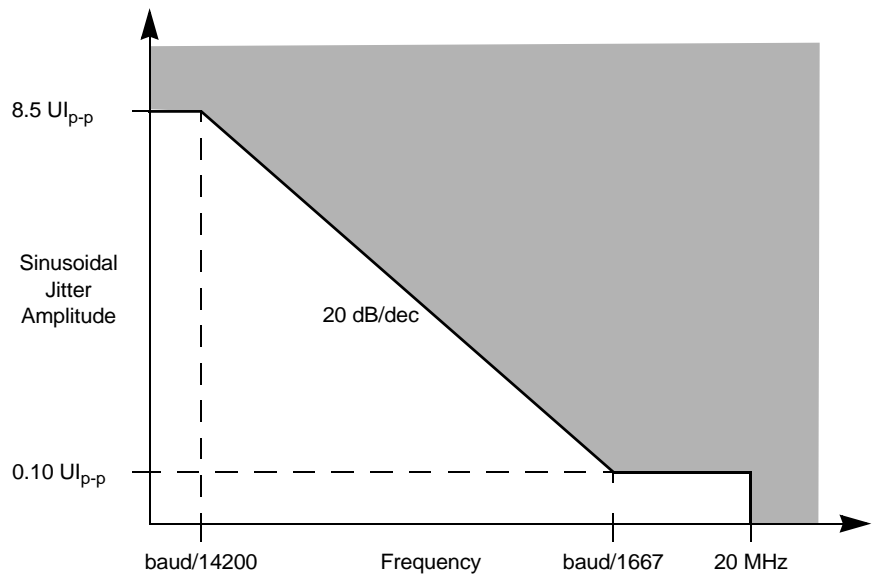
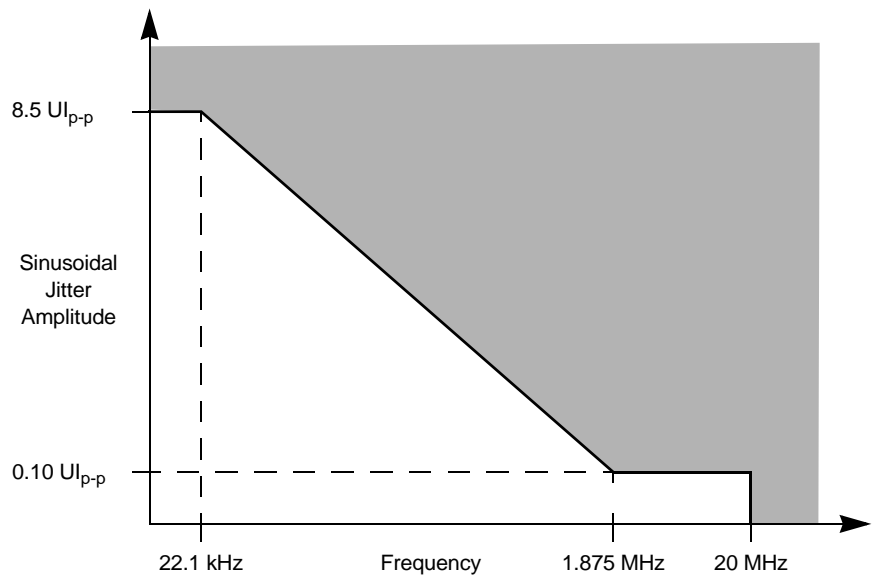

Figure 19. Single Frequency Sinusoidal Jitter Limits for Baud Rate for <3.125 Gbps
Figure 20. Single Frequency Sinusoidal Jitter Limits for Baud Rate for 3.125 Gbps
**Note:** The AC specifications do not include REF\_CLK jitter. The sinusoidal jitter in the total jitter tolerance may have any amplitude and frequency in the unshaded region shown in Figure 19 or Figure 20.